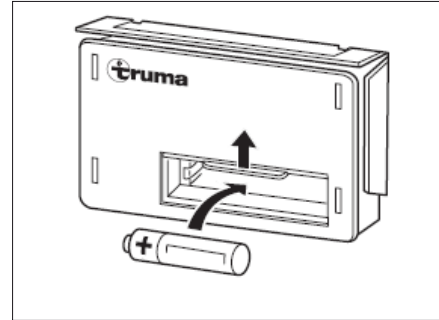

Fig. 106 Changing the batteries
- Slide the cover of the battery compartment at the automatic ignition (Fig. 106) upwards.
- Insert a new battery of the same type into the battery compartment of the automatic ignition, observing the correct polarity (+/-) (Fig. 106). Use only temperature-resistant (+70 °C) and leak-proof Mignon batteries.